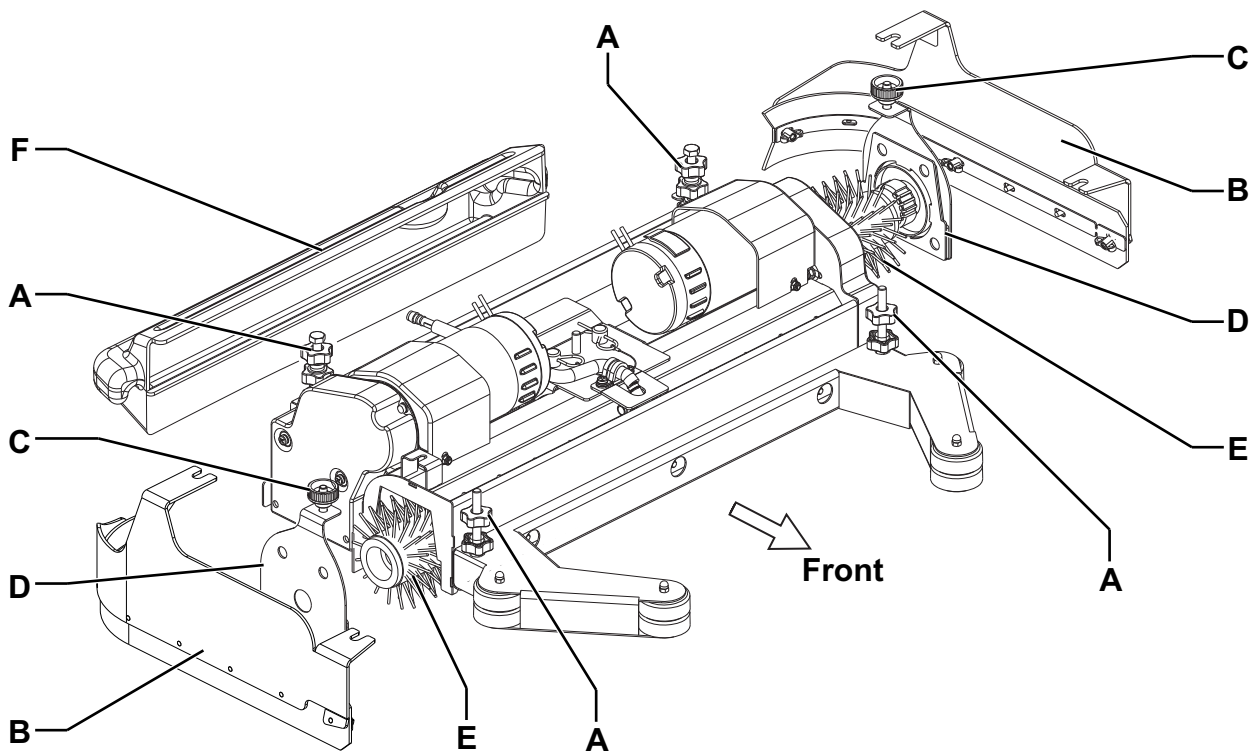

Figure 2
1. Insert the ignition key (58) and turn it to "I".
*Before pressing the switch (67), always check that, between the deck (28) and the machine there is no foreign material which may prevent the deck from lifting.*
2. Lift the deck by pressing the switch (67).
3. Turn the ignition key (58) to "0" and remove it.
4. On both sides of the machine, unscrew the knobs (A, Fig. 2) and remove the side skirt assemblies (B).
5. Unscrew the knobs (C) and remove the lids (D) by pushing the knobs downwards.
6. Install the cylindrical brushes (E), or remove them to install new ones.